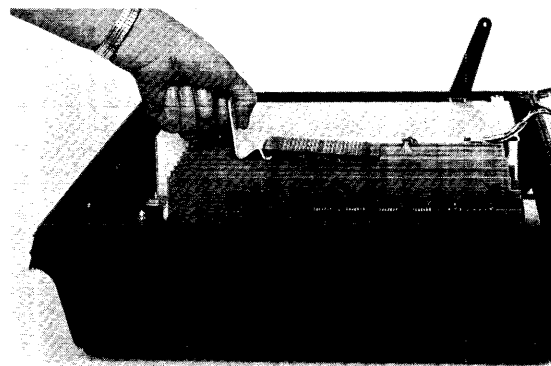

Figure 7-7. Top Plane Assembly Removal
- ( ) Insert connector removal tool under Top Plane Assembly as shown in figure 7-7.